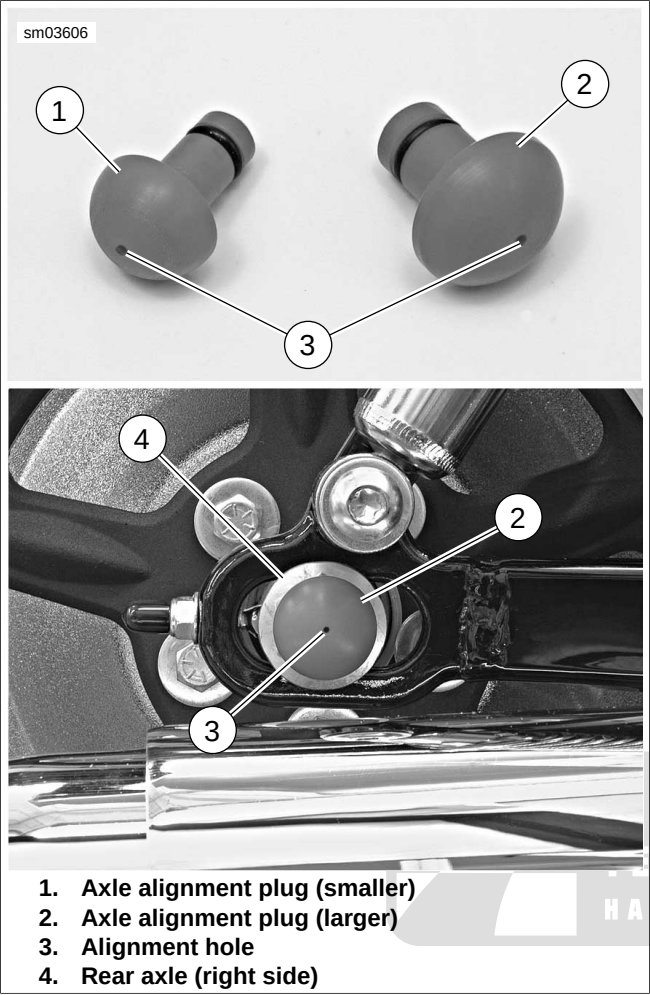

Figure 1-59. Axle Alignment Plugs
- 1. Obtain AXLE ALIGNMENT PLUG SET (Part No. HD-48856). See Figure 1-59. Insert axle alignment plugs (1, 2) into left and right ends of rear axle.